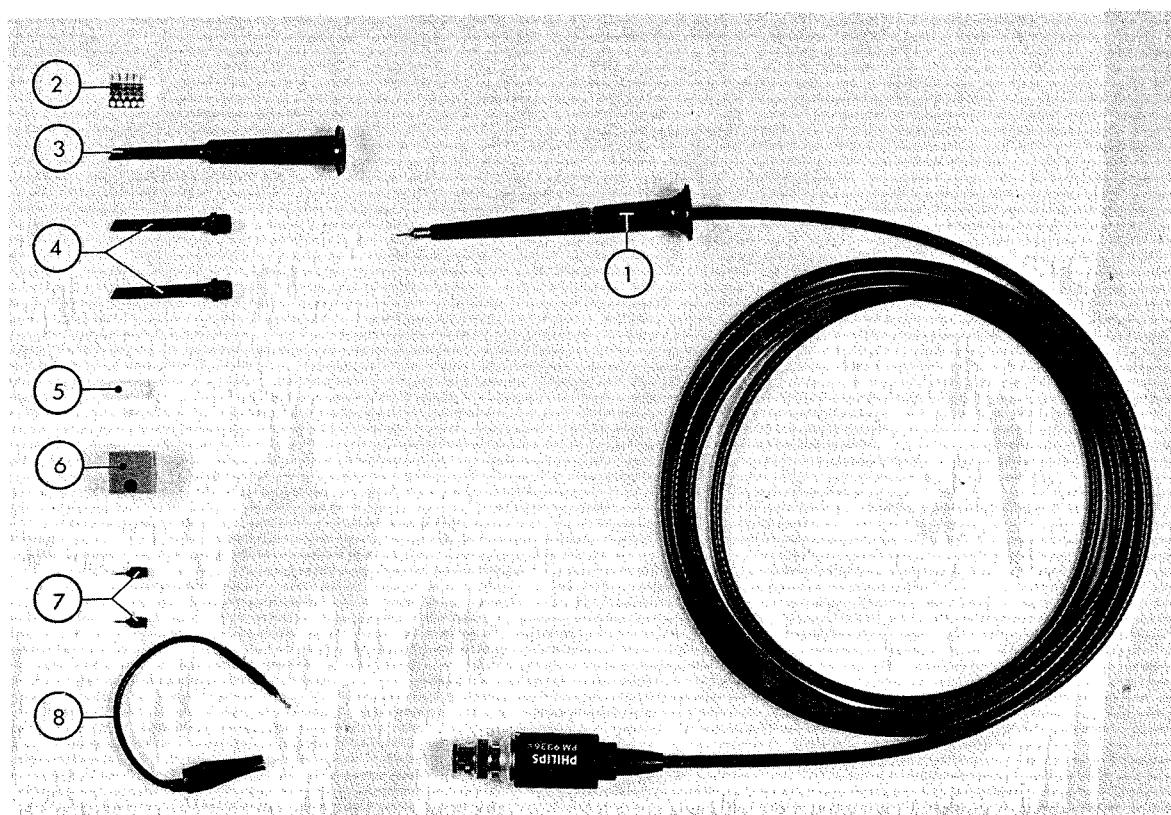

Fig. 3.20. Attenuator probe set PM 9336 (PM 9336L)
| 1 probe assembly | Fig. 3.20, item 1 |
| 5 soldering terminals | Fig. 3.20, item 2 |
| 1 test hook | Fig. 3.20, item 3 |
| 2 spare test hook sleeves | Fig. 3.20, item 4 |
| 1 protective cap | Fig. 3.20, item 5 |
| 1 probe holder | Fig. 3.20, item 6 |
| 2 probe tips | Fig. 3.20, item 7 |
| 1 earthing cord | Fig. 3.20, item 8 |